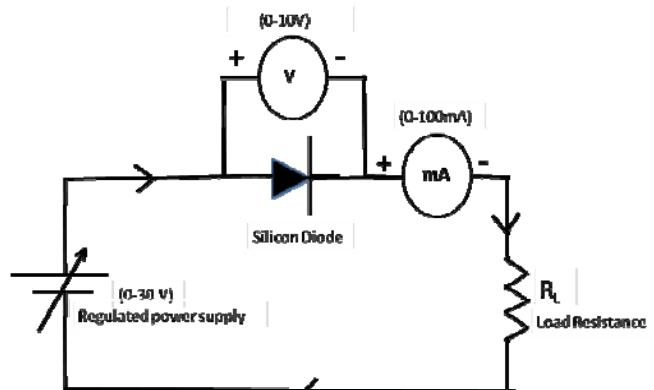

Fig .04: Forward bias
1. Connect the p-n Junction diode in forward bias (Fig.04)